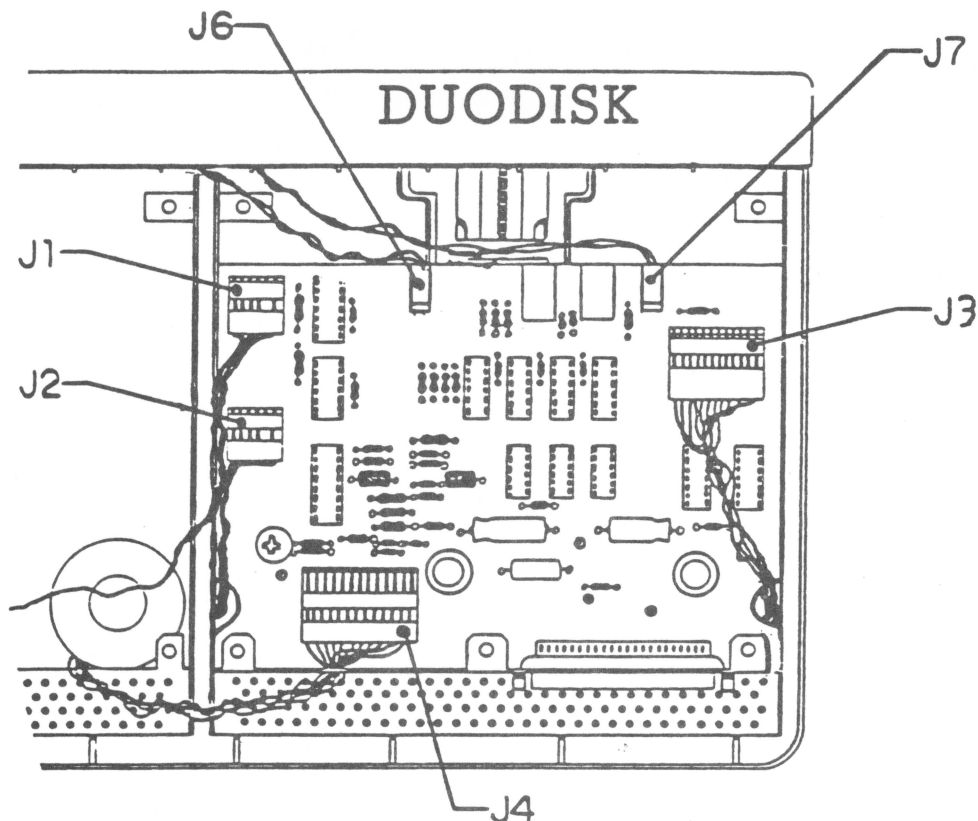

FIGURE 1
1. Remove both Disk Head connectors (Fig. 1, J1 and J2). Notice the position of the shrink tubing on the wire coming from drive 2.
2. Remove stepper motor connectors (Fig. 1, J4 and J3).
3. Remove the two LED connectors (Fig. 1, J6 and J7). Be sure to pull on the connector and not the wires.
11. Route the Disk Head wires (Fig. 1, J1) and stepper motor wires (Fig. 1, J3) through their respective cutouts.
13. Reconnect the stepper motor connector (Fig. 1, J3) for drive 1. If there is no key to indicate correct orientation, the side with "A2" should be face up. (There will be no wires for pins 1 and 2.)
14. Feed the drive 2 stepper motor cable through the cutout at the back of the shield and connect it (Fig. 1, J4).
15. Thread the Disk Head connector for drive 2 (Fig. 1, J2) through the cutouts in the shields and connect it. Make sure the shrink tubing fits in the cutouts.
16. Connect Disk Head connector for drive 1 (Fig. 1, J1).